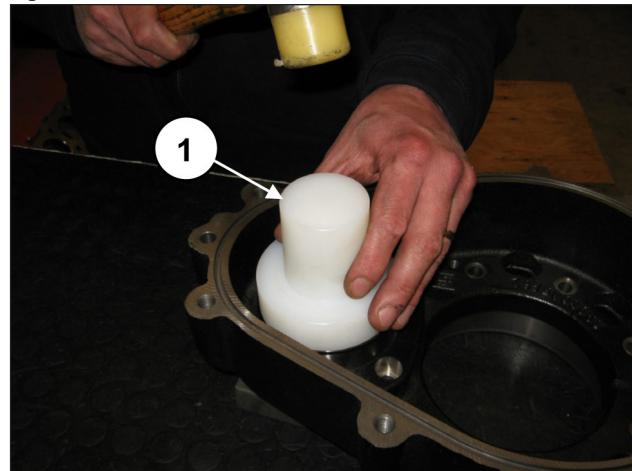
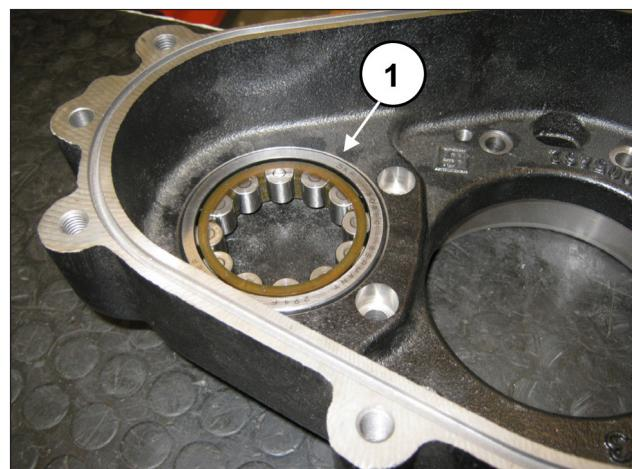

Fig. 53
Fig. 54
Pre-assemble the outer ring of the pinion bearing on the reduction gear with the aid of special tool code 27604900 (pos. ①, Fig. 53) inserting fully down to end stroke (pos. ①, Fig. 54).